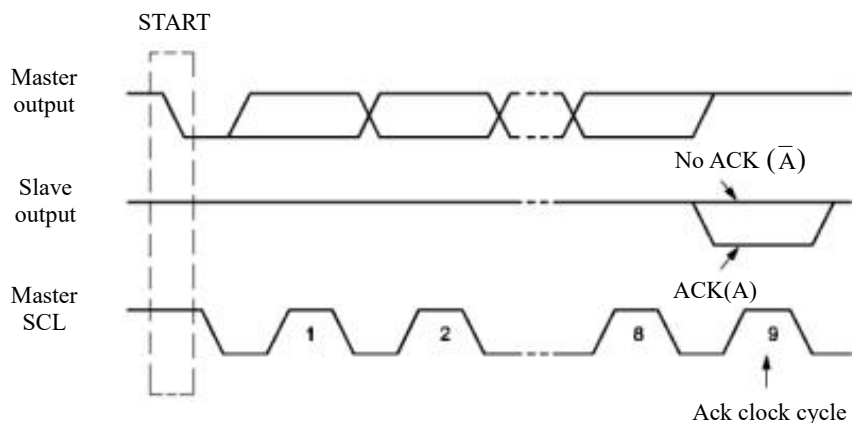

Figure 16-5 IIC bus acknowledge signal
Restart signal (repeated START): on IIC bus, master send a start signal to start-up one time communication, before first time sending stop signal, by sending a repeated start, master can change the communication mode with current slave or switch to communicate with other slaves. As figure 16-5 shown, when SCL is high, SDA transition from high to low, a repeated start signal is generated, it is a start signal essentially.
Acknowledge signal (A): after slave received 8 bit data, it will send to master a special low level. Every byte must be followed by a acknowledge bit to indicates data has been received. Acknowledge appeared at the 9th clock cycle, the master must release data line at this time, and slave pull down the SDA line to generate acknowledge signal, or slave maintain the SDA line as high to generate a no acknowledge(\bar{A}), as Figure16-5 shown. So one byte transmission needs 9 clock cycle. If slave as receiver send no acknowledge signal to master, the slave will end the transmission, and release SDA line. Any above cases will end the data transmission. At this time master sends stop signal to release bus, or generates repeated start signal to restart a new transmission. Start signal, repeated start and stop signal are all controlled by master, acknowledge signal is generated by receiver.